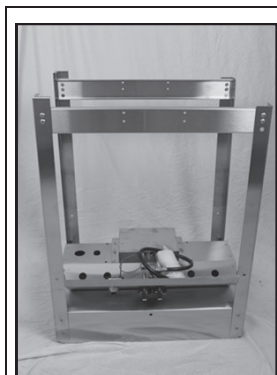

Fig. 5
4. Flip grill upside down and attach the lower shelf brackets to the front and back of the grill with four 1/4-20x1/2" Hex Head Bolts for each bracket as shown in (Fig. 5).